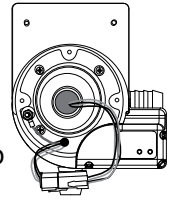

Figure 14.5b
- Once the UV bulb has cooled off remove the CLEARRAY System enclosure cover (2) by removing the four screws (1). This will expose the UV bulb and connections, Figure 14.5b.